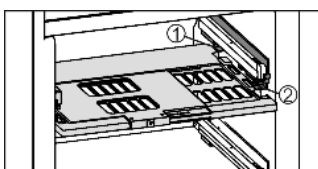

Fig. 14
- ▶ To insert the humidity control plate: Insert the cover mouldings of the plate into the rear holder *Fig. 14 (1)* from underneath and engage them in the holder *Fig. 14 (2)* at the front.